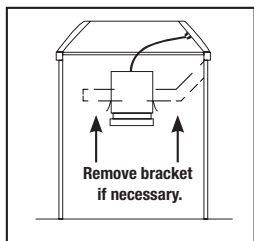

FIGURE 7
2. Remove medium-base mounting bracket only if necessary to provide room for fixture to be installed fully and properly into the housing. (fig. 7)